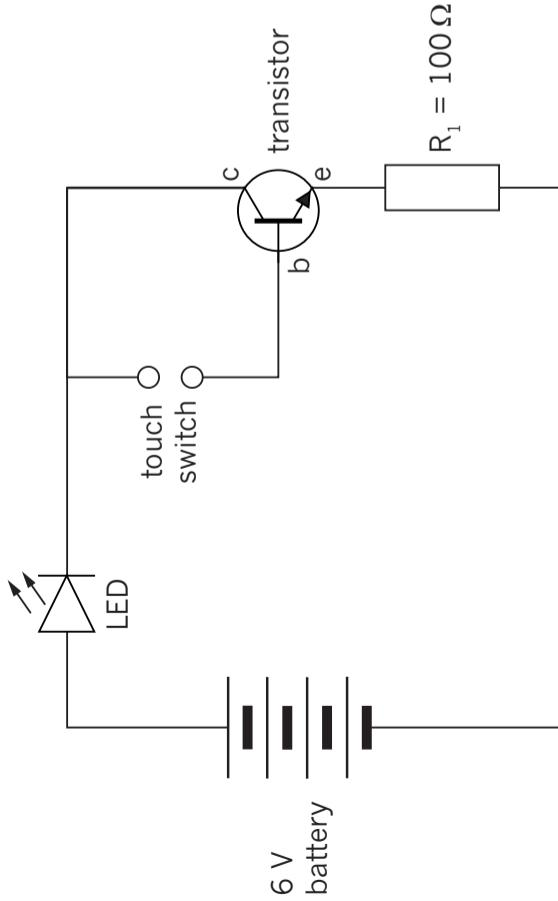

Figure 18: Circuit using a transistor as an electronic switch
Figure 18 shows a circuit that uses a transistor for this purpose. In this circuit, the touch switch is an "input device," the npn transistor is a "control device," and the LED is the "output device".
1. The photograph below shows a circuit built according to the circuit diagram in Figure 18. Look at the photograph and identify each component in the circuit. Redraw the photograph and write labels for the different components and draw arrows pointing from the labels to the components.